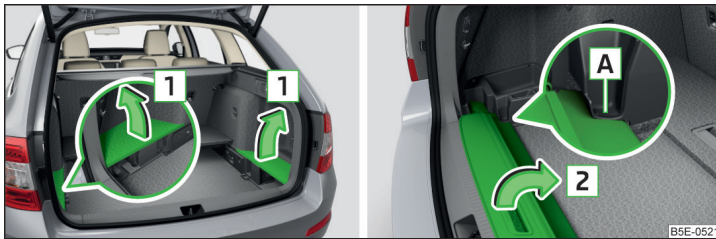

Fig. 135 Removing side covers / stowing foldable luggage compartment cover
- Remove the side covers in the direction of arrows **1** » Fig. 135.